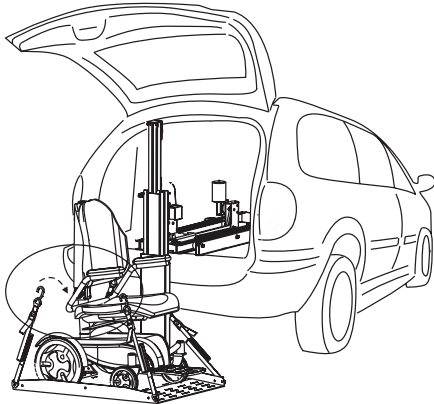

Figure 3-3
1. Each corner of the AL600 platform has a restraint attached, with a hook on the end. Place each hook in either the anchor plate slot or in each U-bolt. **See Figure 3-3**